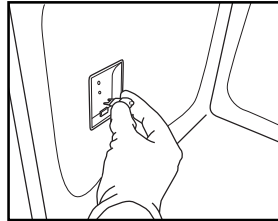

Fig. 9
4. Replace the lamp (see note for lamp type) (Fig. 9).